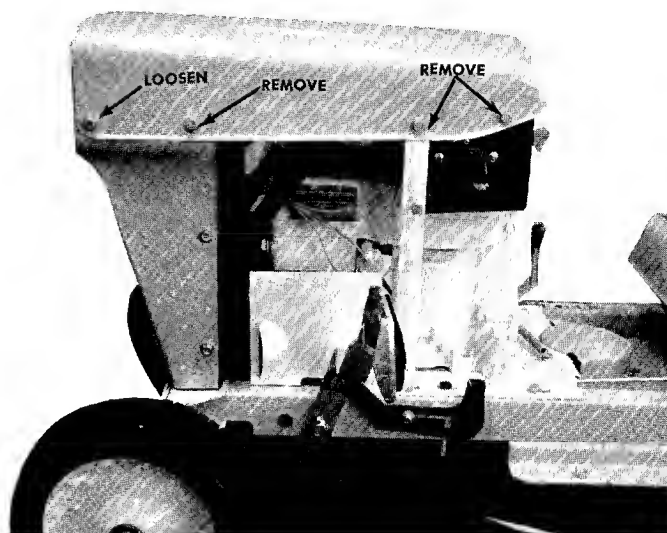

FIGURE 2. HOOD LEFT SIDE
- Step 2. Remove the three bolts and nuts on the left hand side of the hood and loosen the front bolt and nut as shown in figure 2.